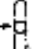

**FIGURE 3**
2. Place edge of bracket on mark and at same time, top of bracket must be flush with top of door. (See figure 3)
5. Using 2-#8 X 3/4 truss head sheet metal screws and 2 lock washers, secure bracket to door, aligning top edge of bracket with top edge of door. (See figure 3)
7. Place chime box on top of bracket with magnet cup and metal disc facing door frame header. (See figure 3)
8. Align slots in chime box with slots in bracket. Secure together with 2-#10-24 truss head bolts, 2 plain washers and 2 kep nuts. (See figure 3)
12. Drill center of hole in metal disc and secure with 1-#8 X 3/4 truss head sheet metal screw and lock washer. (See figure 3)